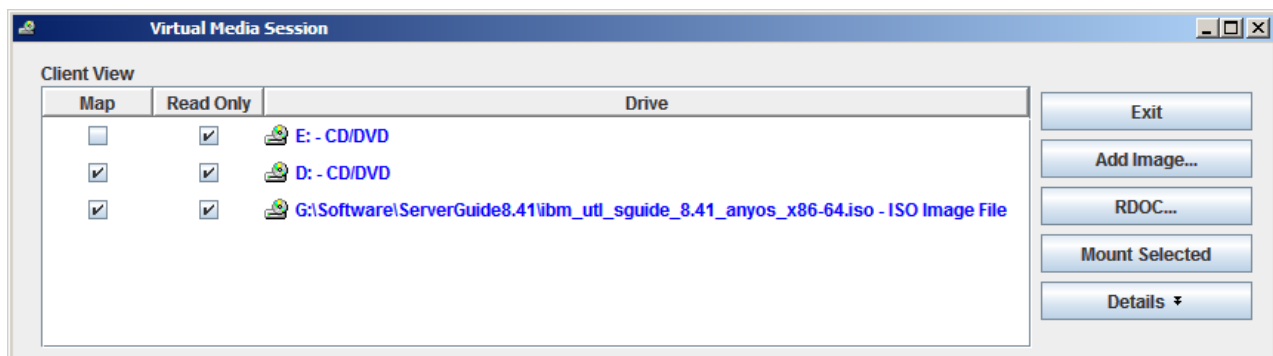

Figure 6-41 Overview of the selected drive
7. Select the check box next to the drive that you want to map and click **Mount Selected**, as shown in Figure 6-41.